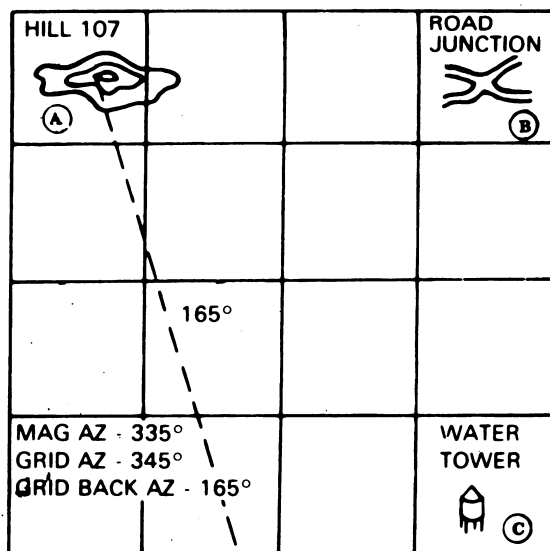

Figure 1b
STEP 3: Measure the magnetic azimuth to one of the known locations; change this to a grid azimuth (fig. 1b).